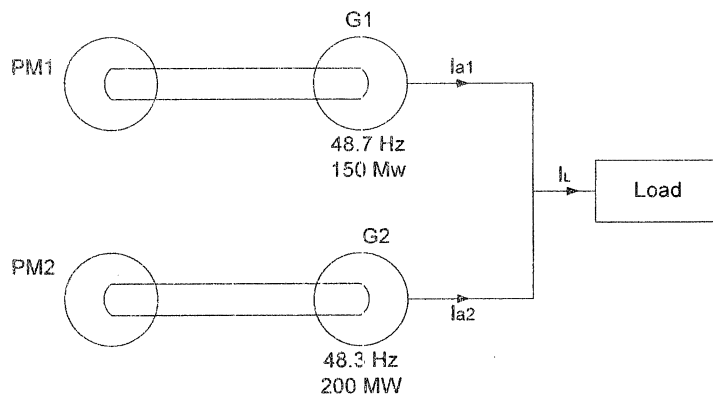

Figure Q7: Parallel operation of two generators
- c. Figure Q7 shows two synchronous generators G1 and G2 operating in parallel. Their turbine governors are preset to deliver 50 MW and 100 MW at 50 Hz to an isolated (each generators has 2 pole)